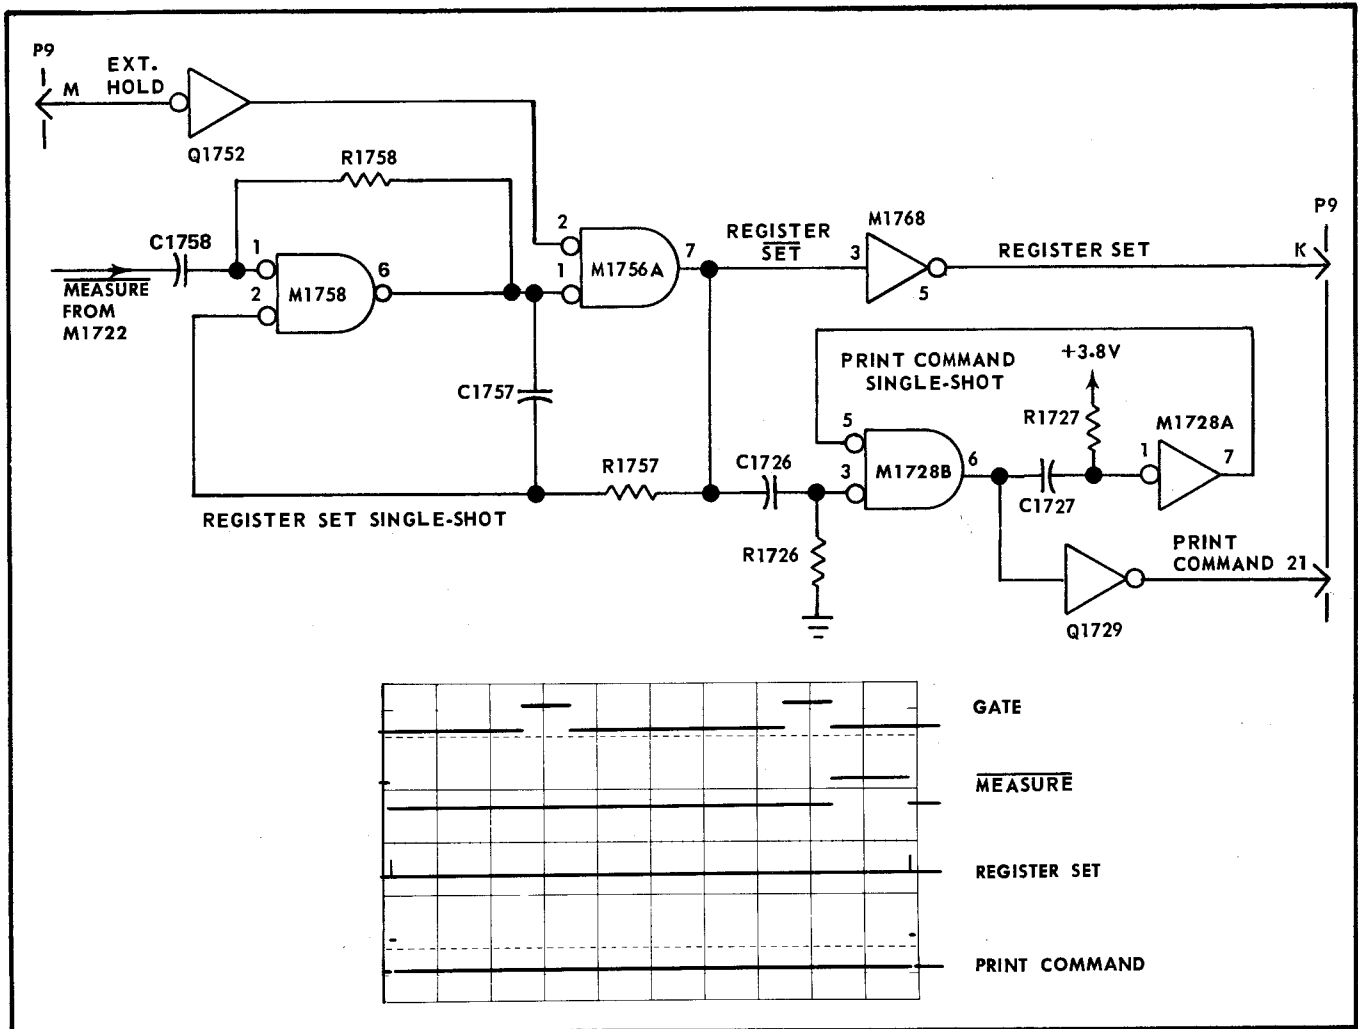

Fig. 4-30. REGISTER SET and PRINT COMMAND pulse generation (synchronizer model 3-up).
The register set single-shot circuit consists of flipflop M1758 and NAND gate M1756A (see Fig. 4-30). The stable state of the single-shot is the reset state, in which M1758A pin 7 is low, M1758B pin 6 is high, and M1756A pin 7 (REGISTER SET) is low. The low at M1756A pin 7 is coupled back through R1757 to pin 2, enabling the flipflop. When MEA-
**External Hold.** If the external readout equipment (such as a printer) does not operate as fast as the Type 230, the readout equipment can command the Type 230 to hold the count in the registers until the printer is ready for it. The hold signal is applied from the readout device to the EXT HOLD line at pin M of the synchronizer (see Fig. 4-30) through rear-panel connector J204. A low on P9 pin M is inverted by Q1752 and applied as a high to M1756A pin 2. This inhibits REGISTER SET by holding M1756A pin 7 at